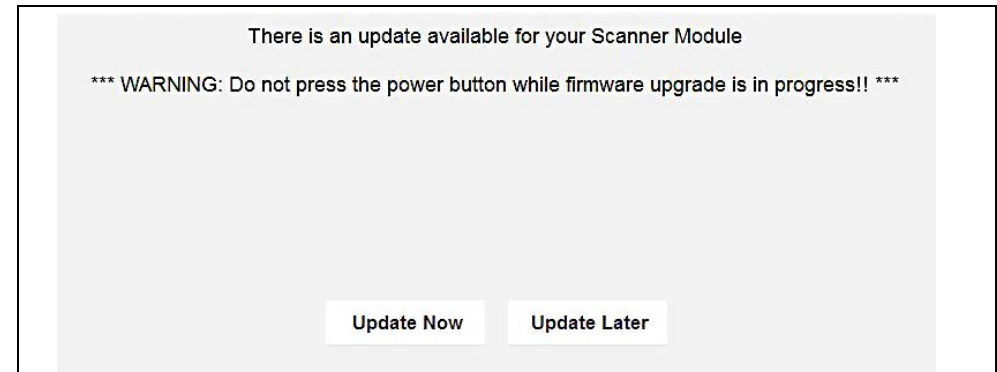

Figure 3-9 Firmware update message
CSM firmware updates (when available) are delivered with diagnostic software updates/upgrades. Upon starting the Scanner function, initially after a software update or upgrade has been installed, a message may be displayed to inform you an update is available (Figure 3-9).
- Select **Update Now** when the update available message displays (Figure 3-9).